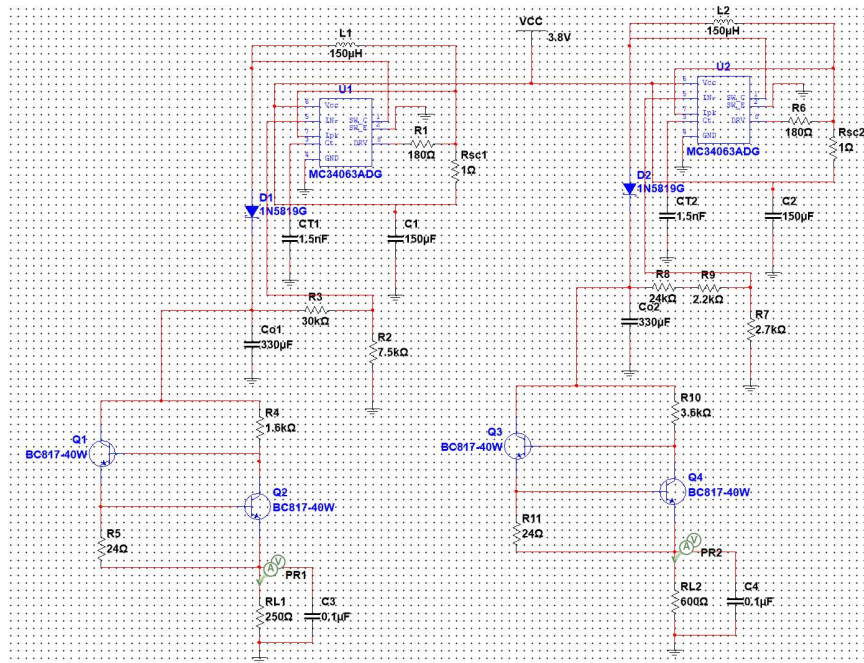

Figure 3: Circuit schematic of the DPS
1. Set up the DPS circuit as shown in Figure 3 in Multisim, attach ammeters and voltmeters to the 5 V and 12 V outputs respectively. Analyse the DPS in Multisim.